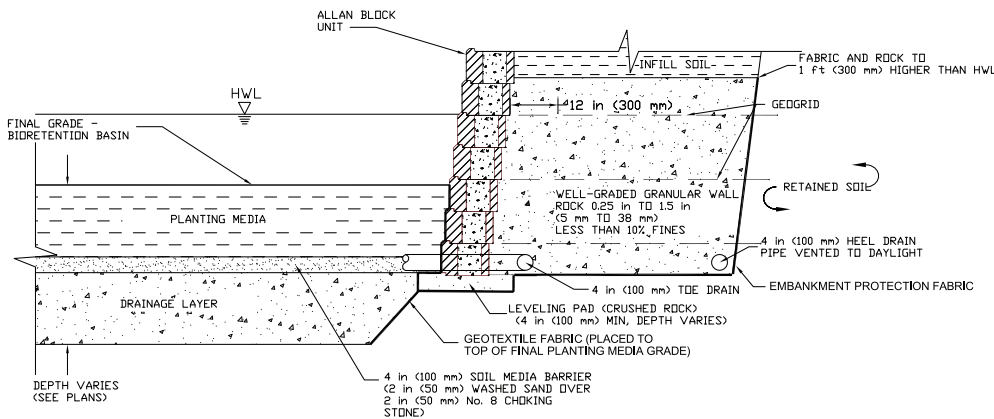

Figure 2: Bio-retention Typical Reinforced Wall Detail High Water Level (HWL)
- Drain pipe placement may be job dependent, but there are two options to consider. If there is an underdrain to the bio-retention pond, the drain could be placed at the bottom of the wall (Figure 2). With no drain, one should consider moving the pipe above the soil media.